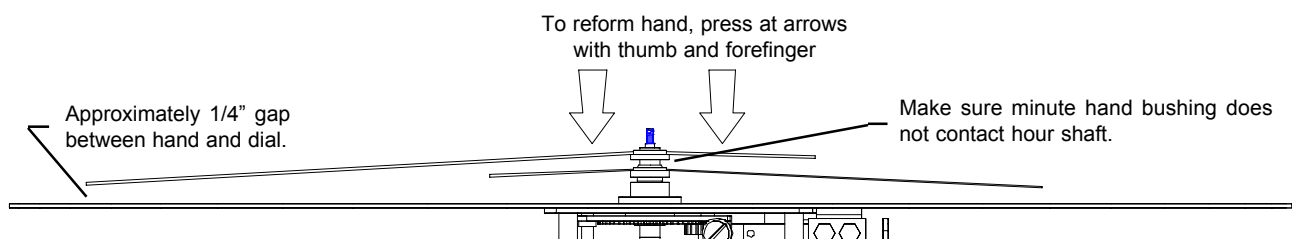

Figure 8
STEP 16: Form the minute hand as shown in figure 8. The setting stem may be rotated at this time to make sure the hands do not collide or scrape dial when advancing the clock movement.